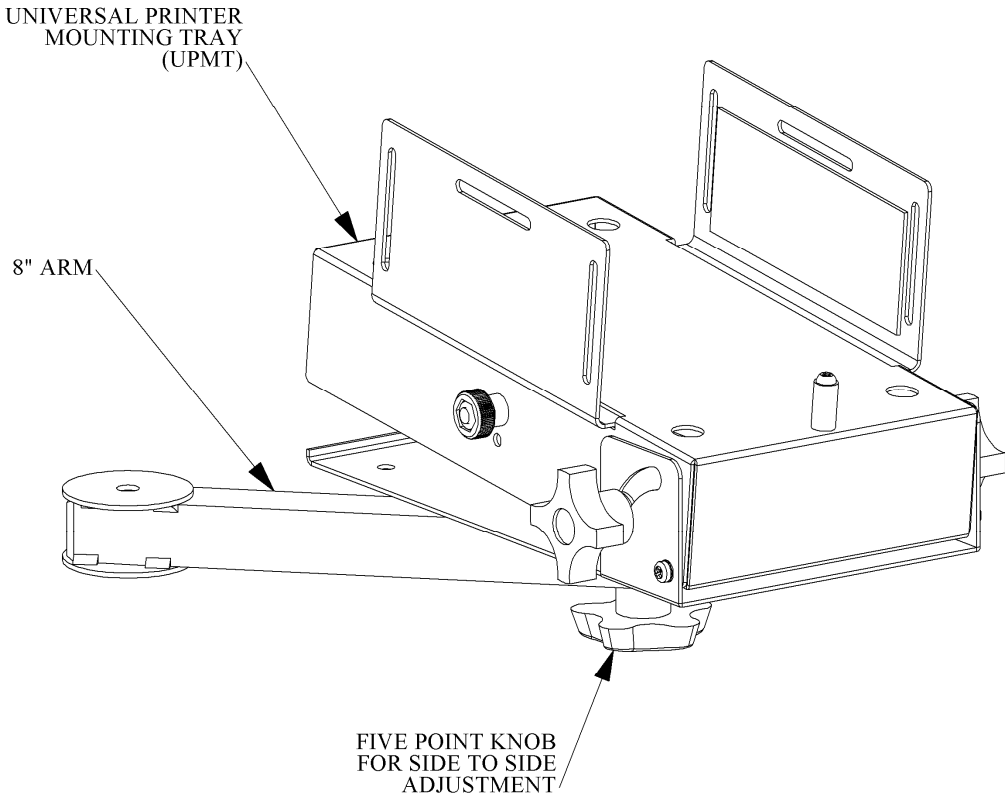

Figure 6 - An 8" arm with a UPMT
4. Install the printer tray on the end of the arm (See Figure 6).